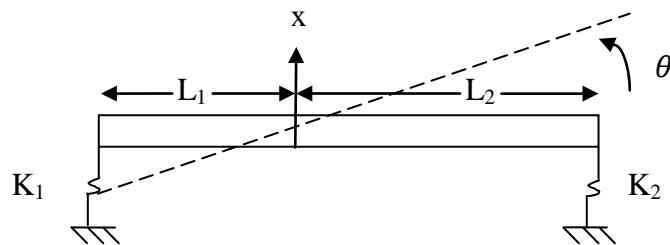

Figure 4/Rajah 4
4. **Figure 4** shows a slender beam with length L and mass m mounted on two springs k_1 and k_2 at both ends. The beam has a centre of gravity located at L_1 from the left spring, k_1 . Formulate the equations of motion using these approaches: